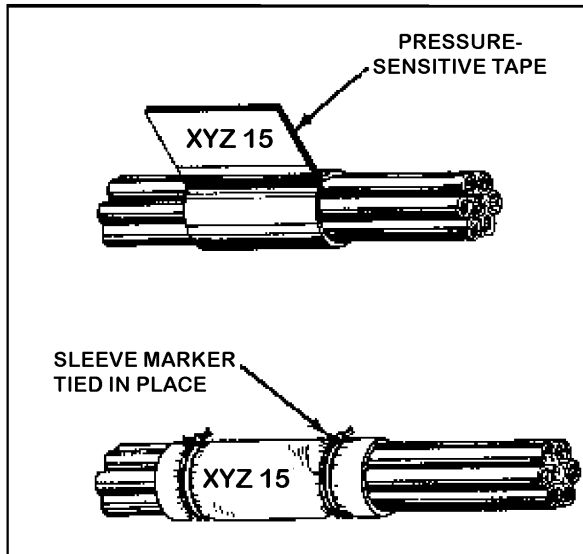

FIGURE 11-25. Identification of wire bundles and harnesses.
**11-218. IDENTIFICATION OF WIRE BUNDLES AND HARNESSSES.** The identification of wire bundles and harnesses is becoming a common practice and may be accomplished by the use of a marked sleeve tied in place or by the use of pressure-sensitive tape as indicated in figure 11-25.